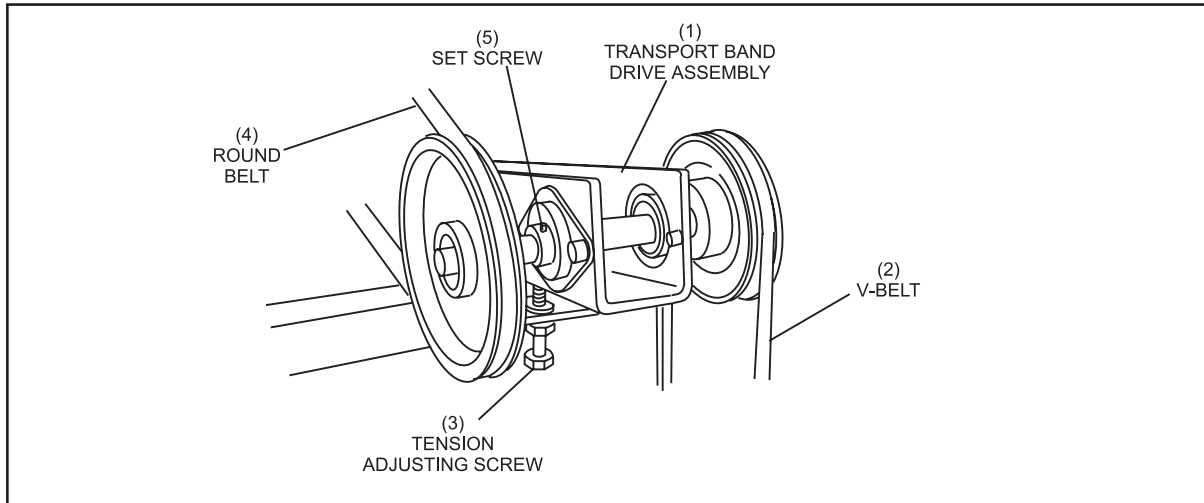

Figure 5-5. Tension Adjustment
2. Loosen the tension adjusting screw. Refer to *Figure 5-5*.